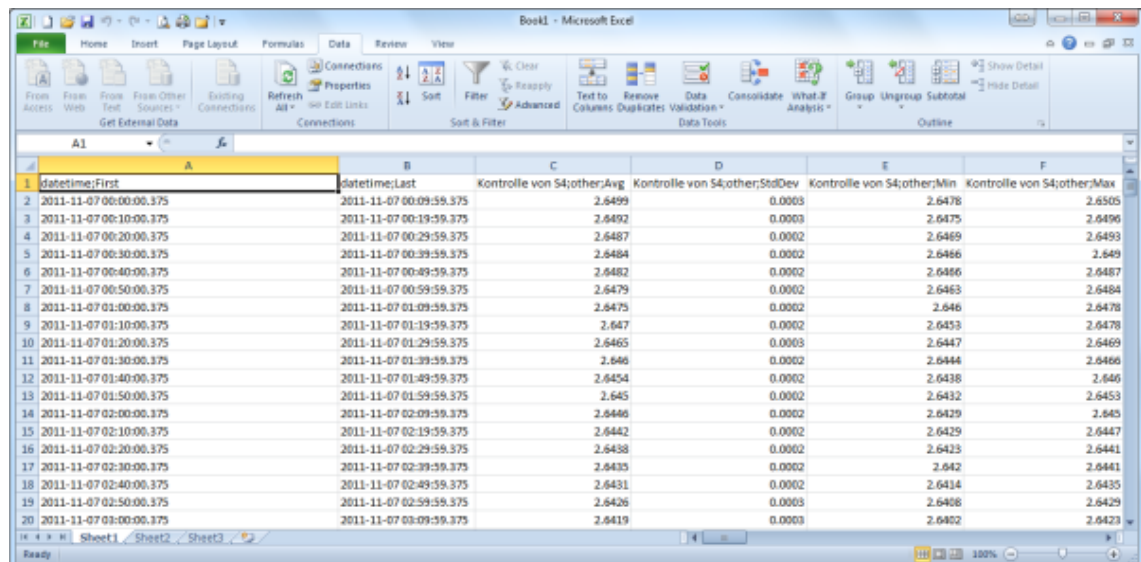

Figure 6.15: Microsoft Excel 2010™ CSV Import (6)
6. By clicking on *Finish* the file opens in your selected sheet. See Figure 6.15.